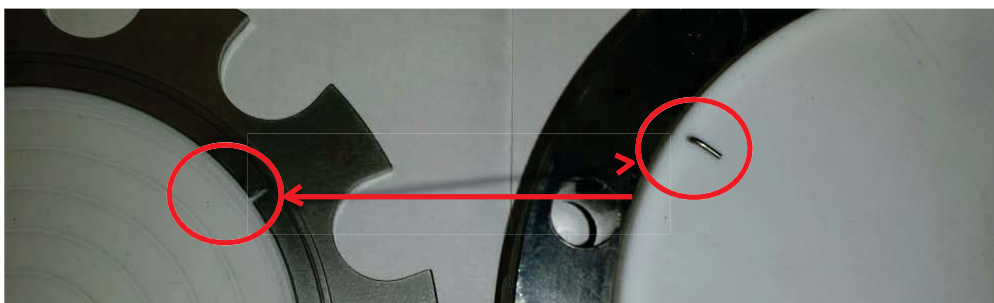

Figure 36
4. Align the diaphragm assembly capillary tubes with mating holes in the seal groove in the reagent head and position it in place against the reagent head. (Figure 36)